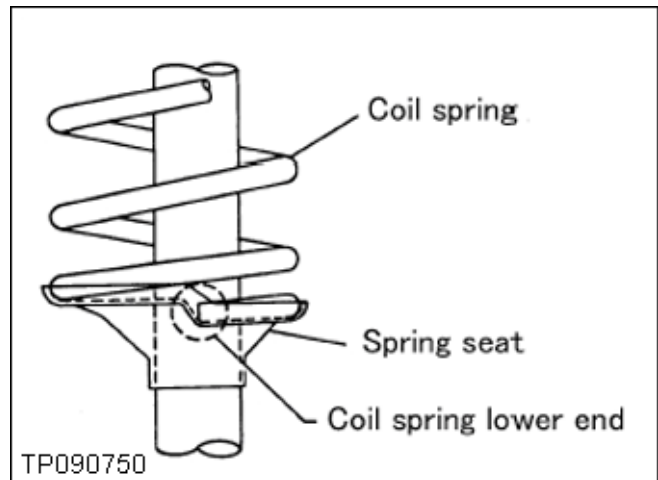

Figure 9
17. Make sure the lower end of the spring coil is correctly and firmly seated in the spring seat as shown in Figure 9.